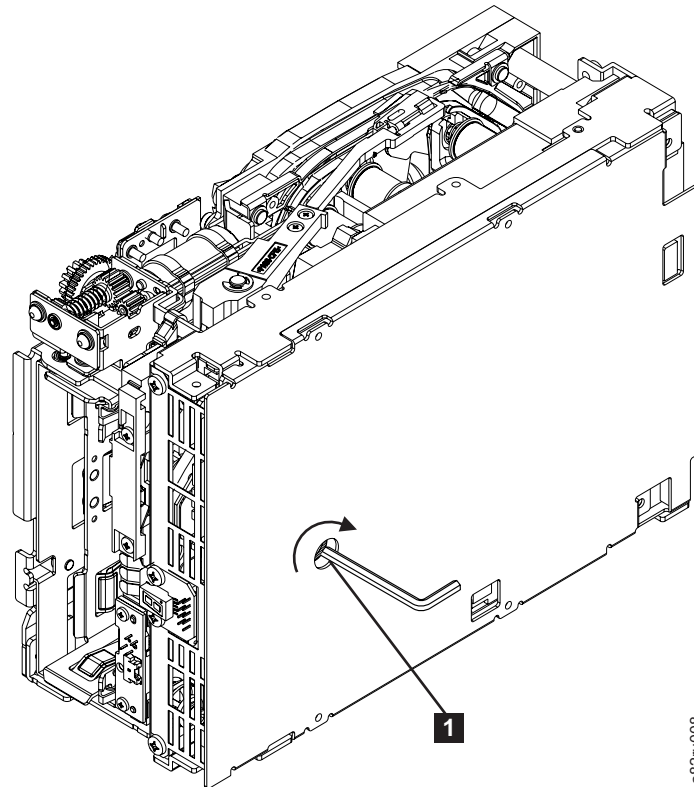

Figure F-11. Using hex wrench to rewind tape into cartridge
3. From the bottom of the drive, locate the access hole (**1** in Figure F-11).
Note: Be sure to keep tension on the tape as the LBA is drawn into the cartridge by using a hex wrench as shown in Figure F-11 on page F-10.